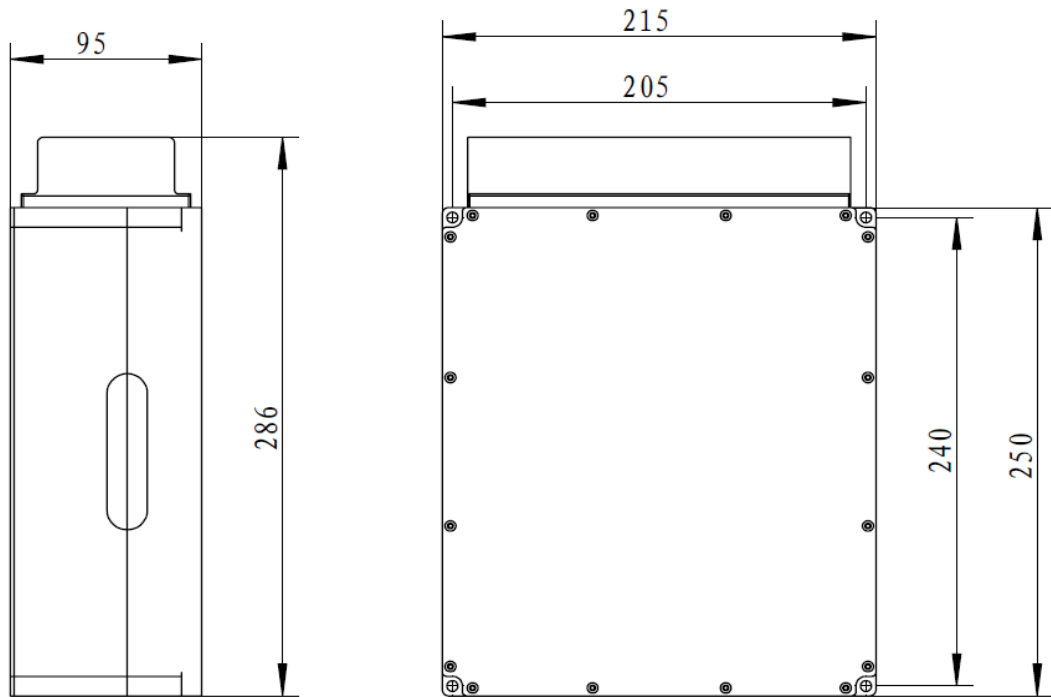

Figure 1. Dimension drawing of laser module (Unit: mm).
(1) Fiber Laser module dimensions (As shown in Fig. 1).